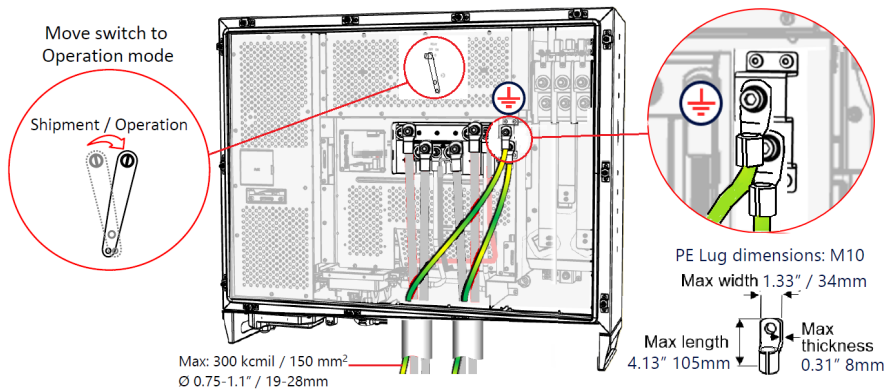

Figure 25: Unlocking the inverter and Connecting PE (Ground)
- To unlock the inverter and enable power production, move the lock from SHIPMENT to OPERATION (see *Figure 25*).